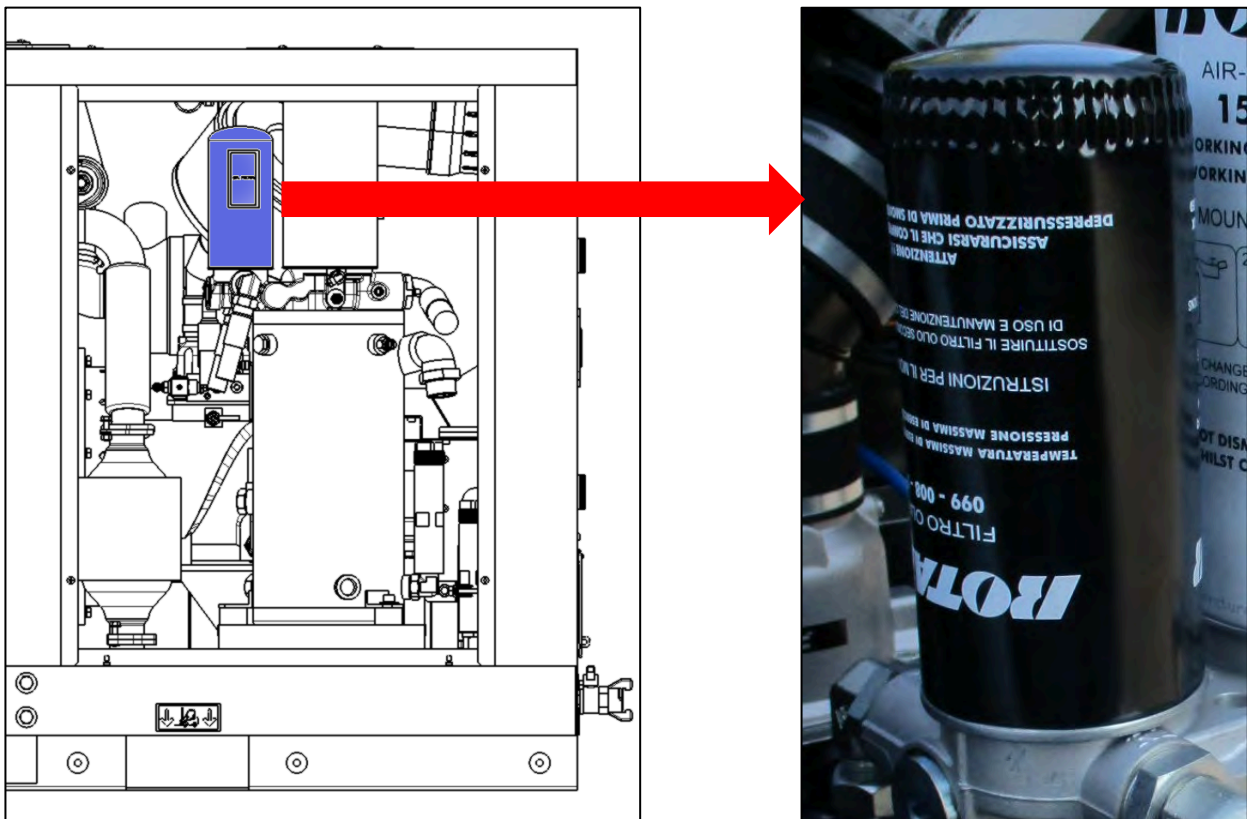

Figure 13.4-7 Compressor oil filter
- 2) Use a chain wrench to unscrew the filter to be replaced (Figure 13.4-7);